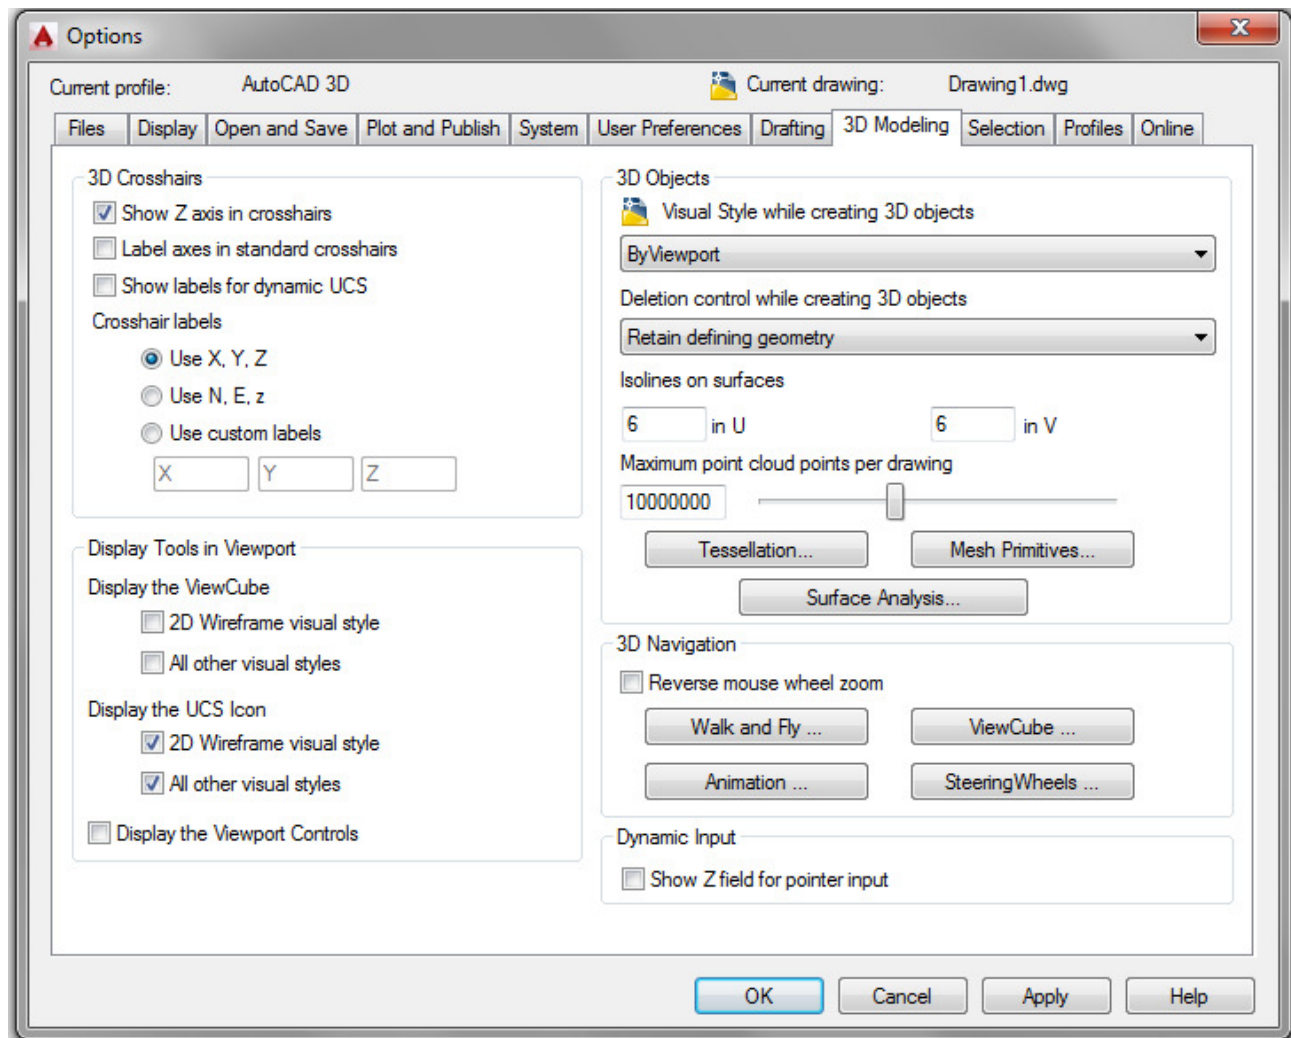

Figure Step 38
Step 38 Enable the 3D Modeling tab. (Figure Step 38)